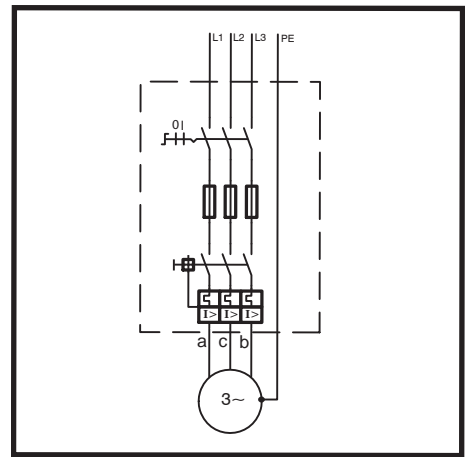

Fig.: 15
1. 3-phase connection (fig. 15). Connect motor so that its direction of rotation corresponds to that of the unit. The connection features the usual circuit with a clockwise rotating field and an counter clockwise rotation for the motor shaft.